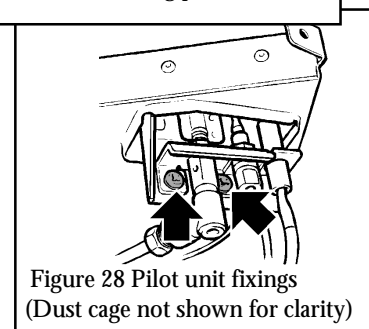

Figure 28 Pilot unit fixings
14.3.8 Remove the first screw securing the dust cage to the pilot unit & burner (see figure. 28). Carefully remove the dust cage and place aside.